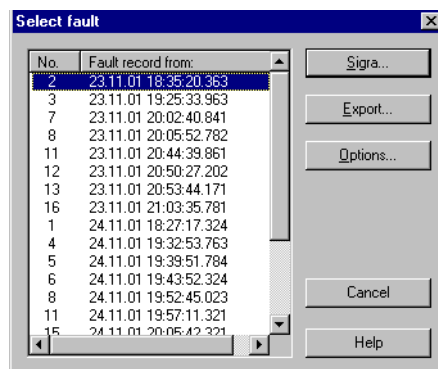

Figure 6-14 Select fault window in DIGSI
- ❑ Double-click **Fault recording**. The Select fault window opens (Figure 6-14, page 224).